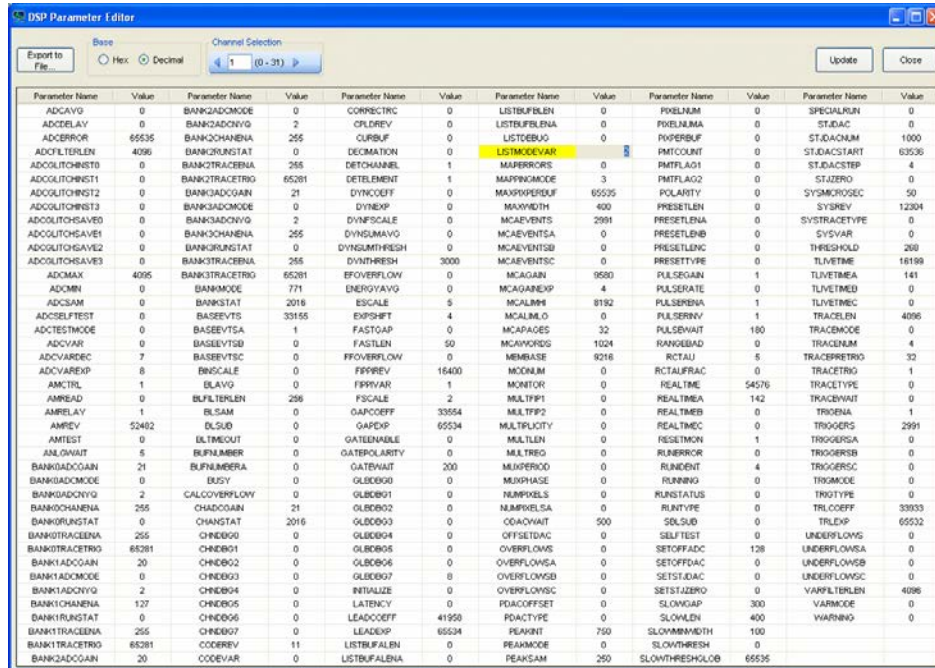

Fig 14: The List Mode Variant setting is accessible in the DSP Parameter Editor. You must press ENTER after modifying the value!
- To change the List Mode Variant, open the DSP Parameters... window accessible under the Tools menu, as shown in Figure 14 below. Edit the integer value for LISTMODEVAR and press